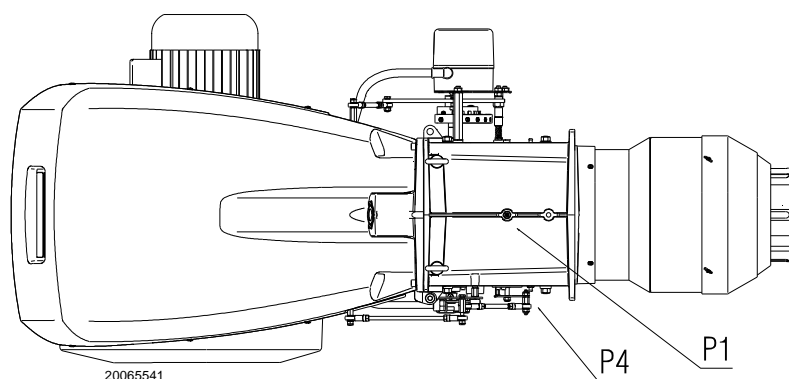

Fig. 22
Gas pressure measured at the test point P1) (Fig. 22), with:
- subtract the combustion chamber pressure from the gas pressure measured at test point P1) (Fig. 22).
Gas pressure at test point P1)(Fig. 22) = 25.6 mbar
To calculate the required gas pressure at test point P1) (Fig. 22), set the MAX output required from the burner operation:
- read, on the right (column 1), the pressure at the test point P1)(Fig. 22).
Pressure required at test point P1)(Fig. 22).